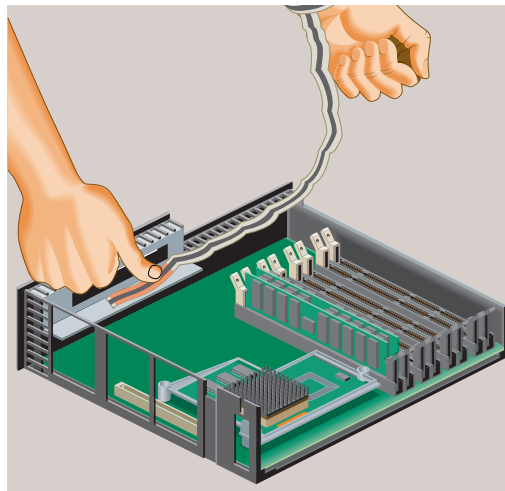

Figure 5-3 Attaching the Wrist Strap
4. Before touching any of the components, ground yourself to a metal part of the chassis. Attach the wrist strap to your wrist and to the metal flange (Figure 5-3).